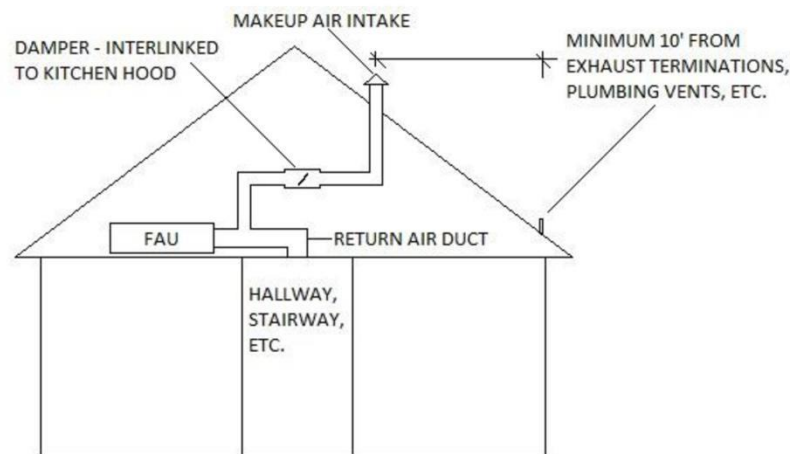

Figure CPA 057 – Makeup Air
- Add makeup air to your HVAC system by outdoor air being ducted to the return duct of a forced-air furnace (FAU) (see Figure CPA 057).